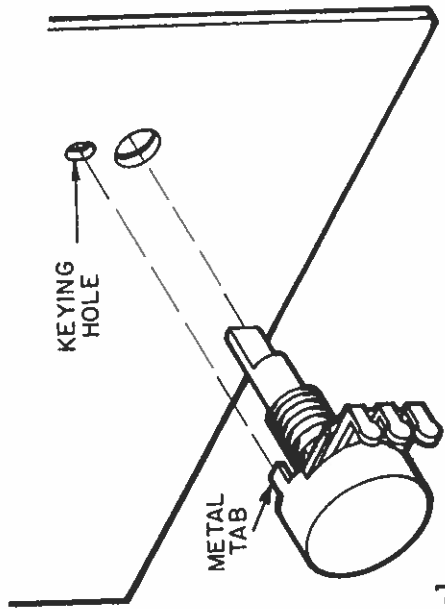

Figure 1-1
**Step 1A**  Rotate each control until the projecting metal tab is positioned in the key-hole as shown in Figure 1-1. Tighten the hex nut on the control with your combination pliers or an open-end wrench.